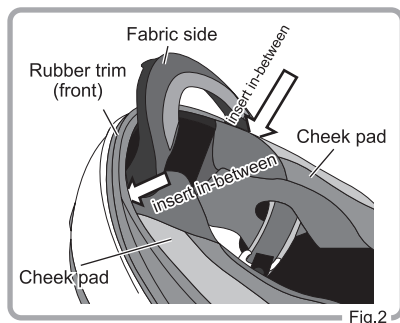

Fig.2
2. As shown in Fig.2, turn the helmet over and attach the Wind Shutter-2 on the front (chin area) of the helmet. IN doing this, insert the interlining of both sides of the Wind Shutter-2 in-between the front area of the cheek pad and the rubber trim.